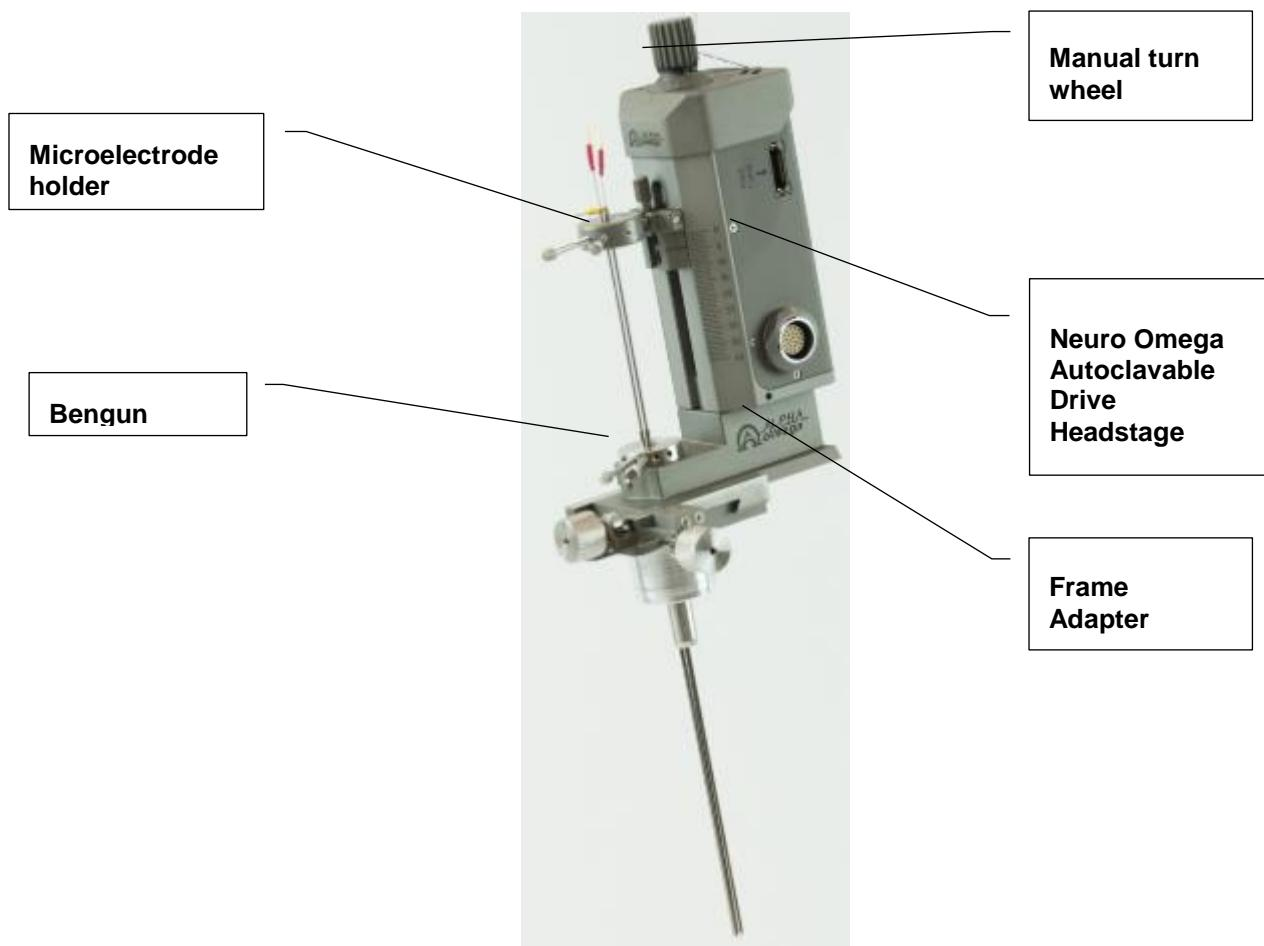

Figure 12: Neuro Omega AutoClavable Drive HeadStage
- The Neuro Omega Autoclavable Drive and the components comprising the Neuro Omega Autoclavable Drive module appear in Figure 12.